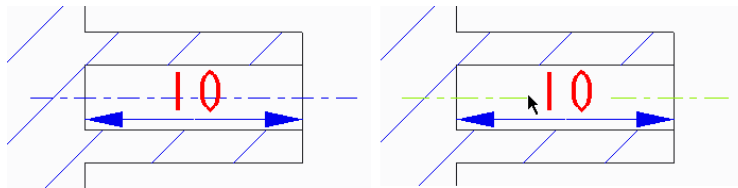

Figure 24: On left: Centerline overlapping with dimension value (10). On right: The end point of the break just selected.
3. Select start point and then end point of the break (Figure 24). A brake is added.